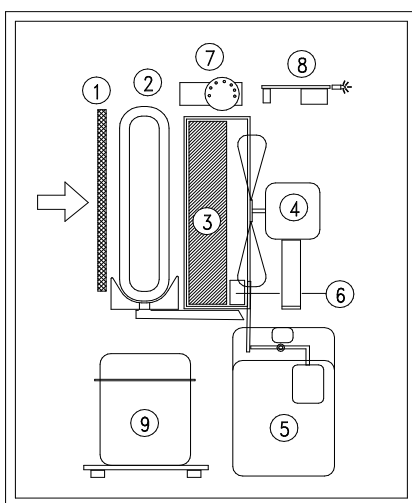

Fig. 1
With reference to the drawing (fig. 1), the air is drawn in through the back side of the dehumidifier, then it passes through the **filter (1)**, through the aluminium refrigerated coil or **evaporator (2)**, again through the heat-exchanger or **condenser (3)**. Finally, the **motor fan (4)** expels the air back into the room through the front grilled panel: The condensed water is collected in the **tank (5)**. A **micro-switch (6)** stops the machine when the water in the tank reaches the correct level by raising the water float lever. The **humidistat (7)** starts the functioning of the dehumidifier when the humidity is higher than the preset level. An **electronic circuit (8)** controls the defrosting and prevents the **compressor (9)** repeated starts within too short a time by delaying each new start.